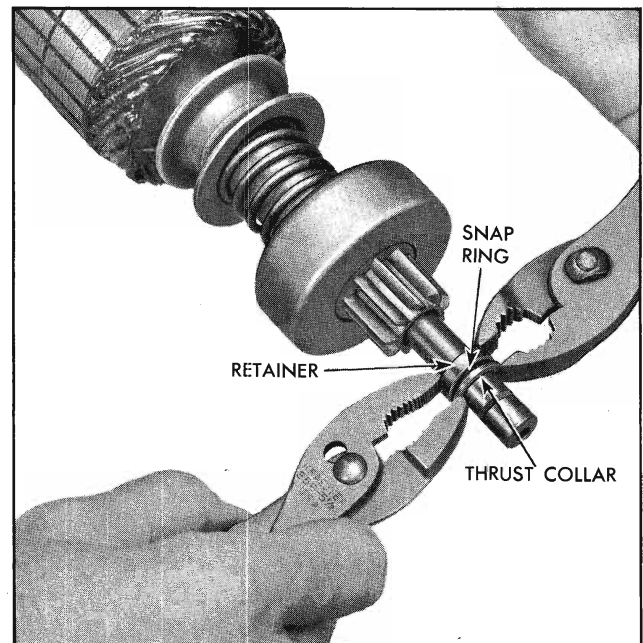

Fig. 11-45 Forcing Retainer Over Snap Ring
e. Assemble thrust collar on shaft with shoulder next to snap ring (Fig. 11-45).
Then, using two pairs of pliers at same time (one pair on either side of shaft), grip retainer and thrust collar and squeeze until retainer is forced over snap ring (Fig. 11-45).